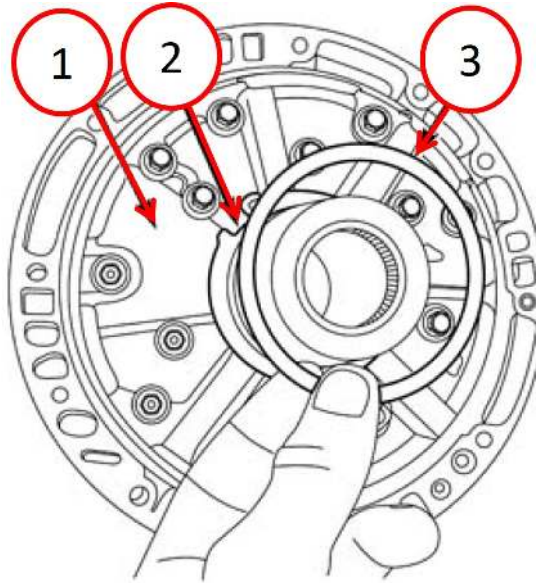

Fig. 14
23. Lubricate with trans jel or petroleum jelly and install the nylon thrust washer onto the oil pump (Fig. 14) .
NOTE: The nylon thrust washer is keyed to the oil pump (Fig. 14) .
NOTE: Two pin punches inserted through the oil pump mounting holes will aid in the installation of the oil pump (Fig. 14) .